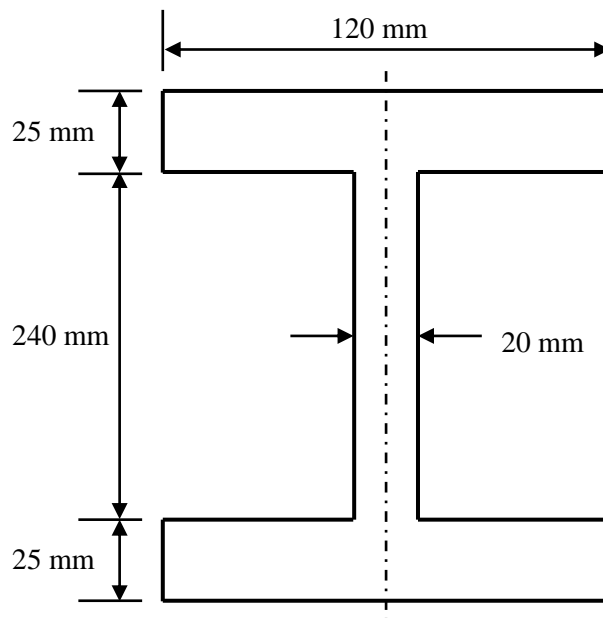

Fig Q6
6. The cross section of a symmetrical I-shaped beam is shown in Fig Q6. The beam is simply supported at both ends and carries a uniformly distributed load of 30 kN/m and a single concentrated load of 6 kN at mid-span.